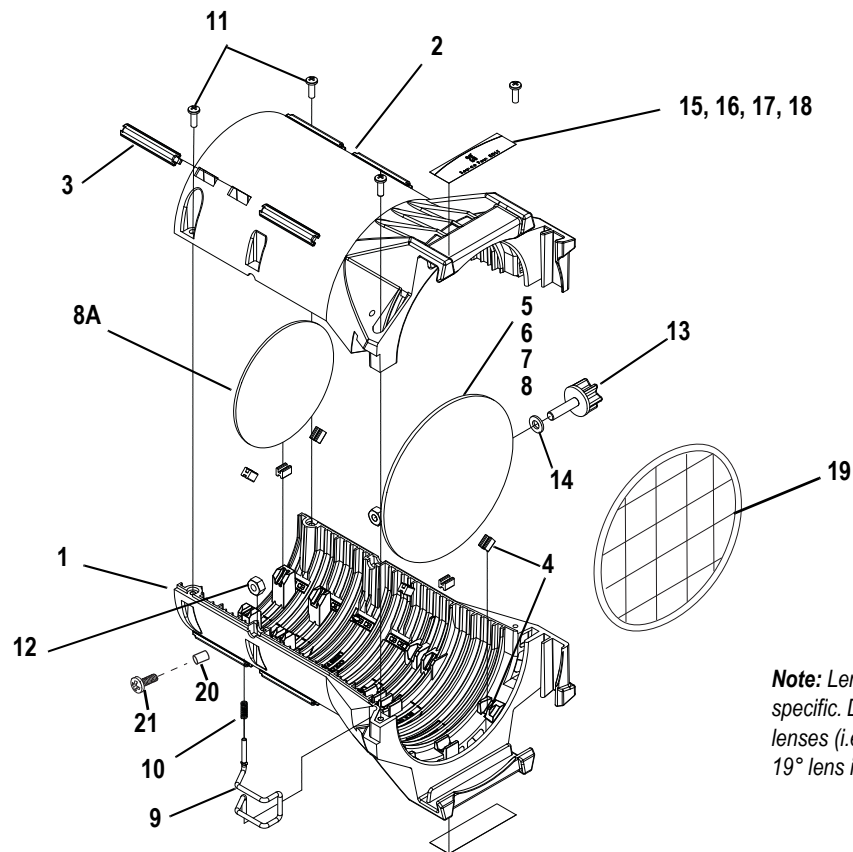

Figure 14
Step 7: See Figure 14. Invert the right lens tube (2) and hold it above the left lens tube (1). Fit the clip (9) and spring (10) into the right lens tube. Gently place the right lens tube onto the left lens tube, making sure that the 1/4-20 hex nut and